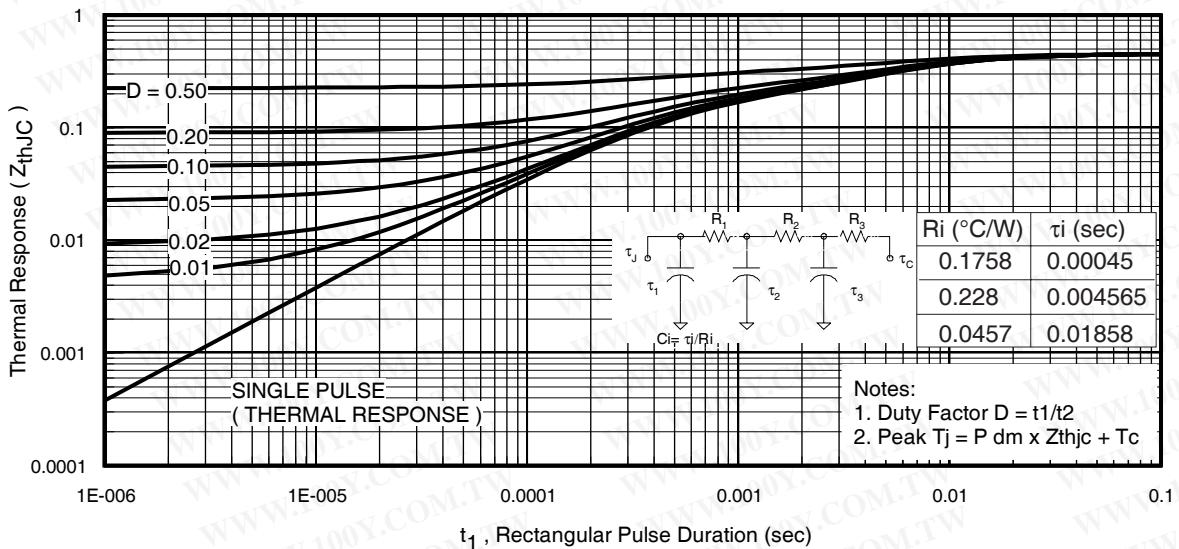
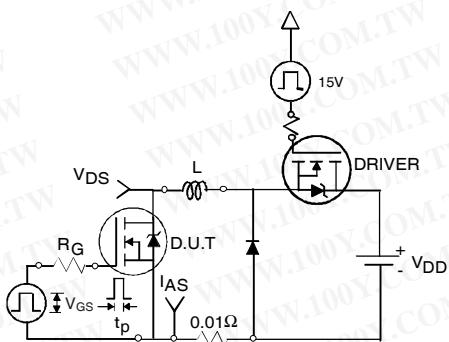

Fig 11. Maximum Effective Transient Thermal Impedance, Junction-to-Case
Fig 12a. Unclamped Inductive Test Circuit
- ① Repetitive rating; pulse width limited by max. junction temperature. (See fig. 11).
- ② Limited by $T_{J\text{max}}$, starting $T_J = 25^\circ\text{C}$, $L = 0.17\text{mH}$ ⑤ $R_G = 25\Omega$, $I_{AS} = 75\text{A}$, $V_{GS} = 10\text{V}$. Part not recommended for use above this value.
- ③ Pulse width $\leq 1.0\text{ms}$; duty cycle $\leq 2\%$.
- ④ $C_{\text{oss eff.}}$ is a fixed capacitance that gives the same charging time as C_{oss} while V_{DS} is rising from 0 to 80% V_{DSS} .
- ⑤ Limited by $T_{J\text{max}}$, see Fig.12a, 12b, 15, 16 for typical repetitive avalanche performance.
- ⑥ This value determined from sample failure population. 100% tested to this value in production.
- ⑦ R_θ is measured at T_J of approximately 90°C .
3. Equation below based on circuit and waveforms shown in Figures 12a, 12b.
- $Z_{thJC}(D, t_{av})$ = Transient thermal resistance, see figure 11)